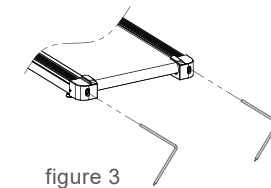

figure 3
2. Using the hex tool, turn both idler roller screws clockwise 1/2 of turn(refer to figure 3).